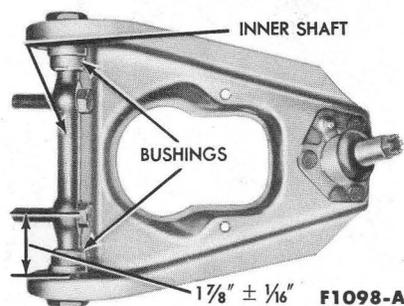

FIG. 6—Upper Arm Bushing Removal and Installation
2. Position the shaft in the arm, and install the new bushings on the shaft and the arm. **Turn the bushings so that the shaft is exactly centered in the arm.** The shaft will be properly centered when located at the dimension shown in Fig. 6. **Position the bushings carefully to avoid damaging the "O" rings inside the bushings.**